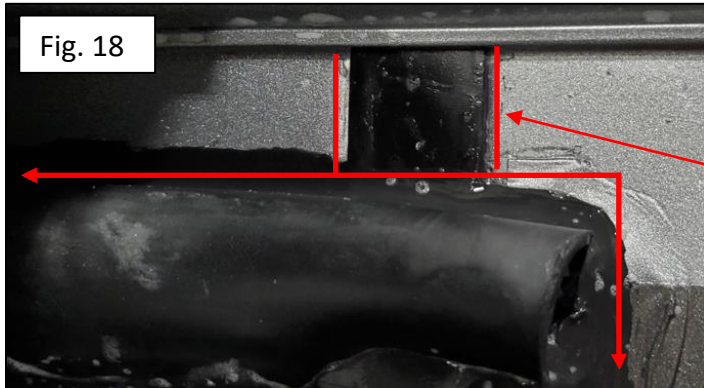

Fig. 18
10. Apply Quad Max sealant around rubber molding and seam cover. (Figure 18)